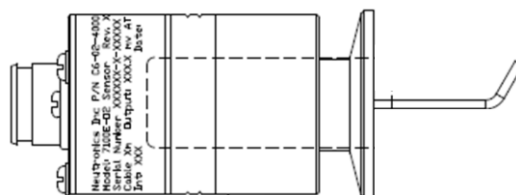

Fig. 9, sensor assembly (shown with KF fitting and short tongue/diverter vane configuration)
The Model 7100E is supplied with one (1) Model ZR-400E oxygen sensor assembly (Figure 9), one (1) sensor interface cable, and one (1) sensor flow-through head for connection to a sampled process gas stream (if required). The Model 7100E can also be supplied with a Neutronics Inc. process Sampling system, built-to-application. For detailed instructions on remote sensor installation with a Neutronics Inc. Process Sampling System, please refer to the appropriate equipment manual.